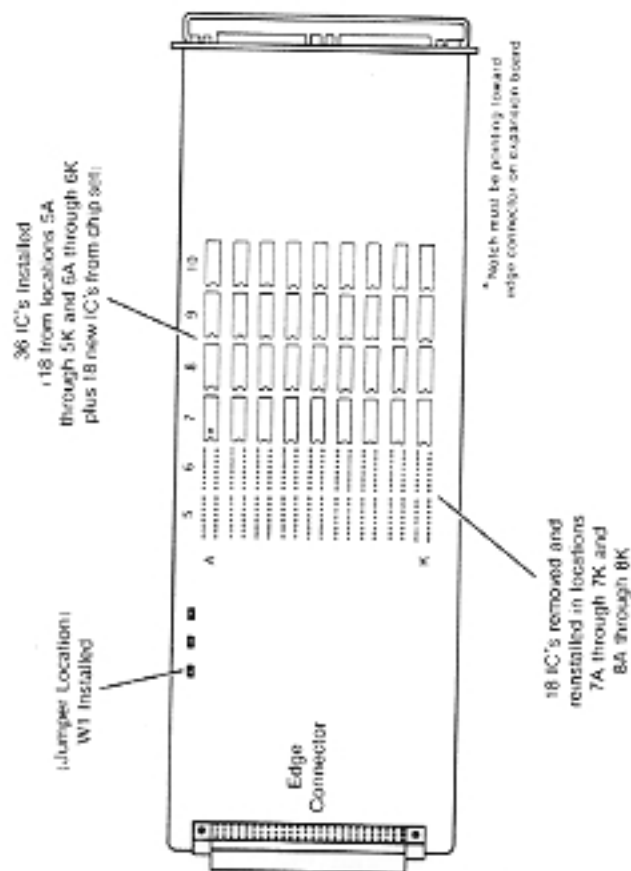

Figure 1 One MB Expansion IC Installation Location
The memory ICs must be properly oriented when they are installed. The notch in the IC must point towards the flat connector located on the edge of the expansion board. Do not assume that the printing on the top of the module will orient it correctly. See Figures 1 and 2 for proper orientation of the memory ICs.
- 1 To install the memory chip set for 1.0MB first determine the locations where the jumper(s) and the ICs must be placed (see Table 1 and Figure 1).